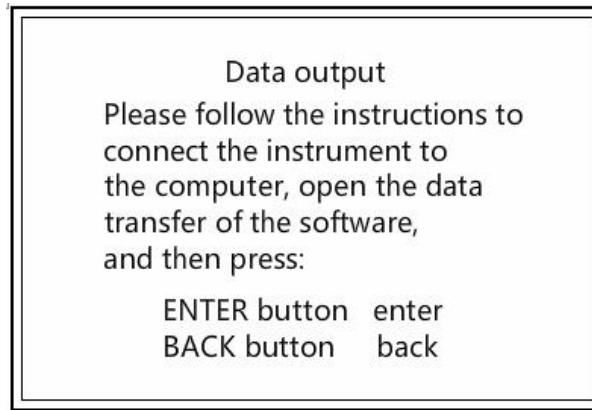
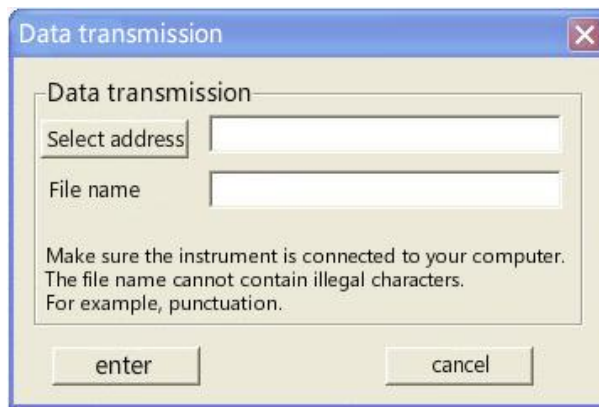

Figure 2-11 Data output
Figure 2-12 Data Transfer Dialog Box
- (1) Connect the instrument to the computer with a USB cable.
- (2) Turn on the power of the host.
- (3) Enter the system main menu interface, select the **data output** submenu, enter the data transmission interface, as shown in Figure 2-11.
- (4) Press **enter** to enter the transmission waiting state.
- (5) Open the high-speed railway crack sounding data analysis software in the computer.
- (6) Click on Tools in the **menu bar** to select **Data Transfer**. The Data Transfer dialog box is displayed, as shown in Figure 2-12.
- (7) Click to **select the address**, select the address where the data is to be stored; enter the file name.
- (8) Click **enter**, the crack depth gauge starts to transfer data, and the data can be transmitted successfully after a while.